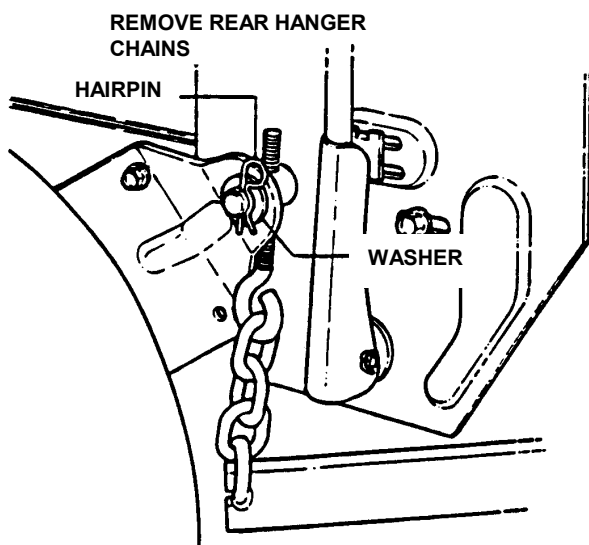

FIGURE 4.5
9. Readjust rear hanger chain pivots to align with holes in support brackets. See Figure 4.5.
2. Turn each hanger pivot the same number of rotations on the eye-bolt to raise or lower the rear of the deck. See Figure 4.5.